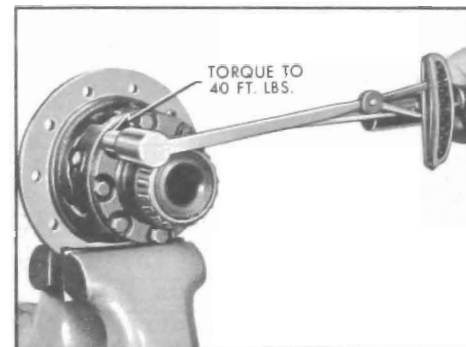

Figure 6-44—Torquing Differential Bolts
9. Install eight cover to flange case bolts and tighten evenly and alternately to 40 ft. lb. torque. See Figure 6-44.